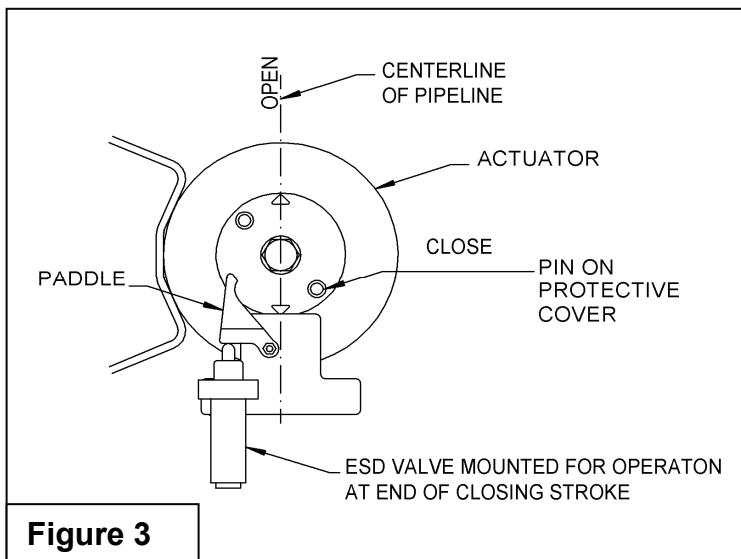

Figure 3
7. Install the ESD Valve in the position that will result in the desired action. Looking down on the top of the Actuator, the valve mounts to the left of the shaft to control a Fail Close stroke and to the right of the shaft to control a Fail Open stroke. (See Figure 3 below.)
1. Before trying to adjust a Limit Valve, use the Shafer Hand Pump to position the actuator so that the pin on the Protective Cover is away from the paddle. (See Figure 3.)